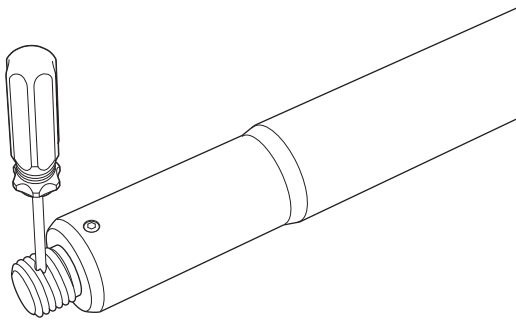

Figure 31: Inserting Screwdriver to Remove M20 Lug
3. Loosen the M20 lug by rotating counter-clockwise (inserting a screwdriver through the lug can help with this process, see Figure 31) and remove it.